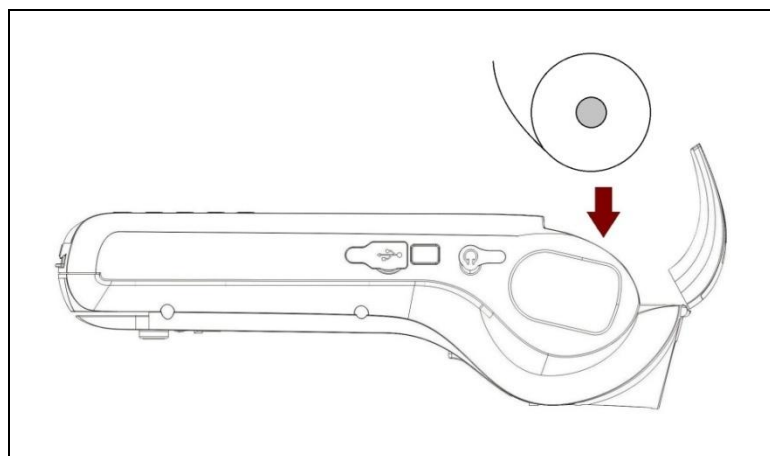

Figure 5: ACR890 – Paper Orientation
2. Place the paper roll following the proper paper orientation (see **Figure 5**).